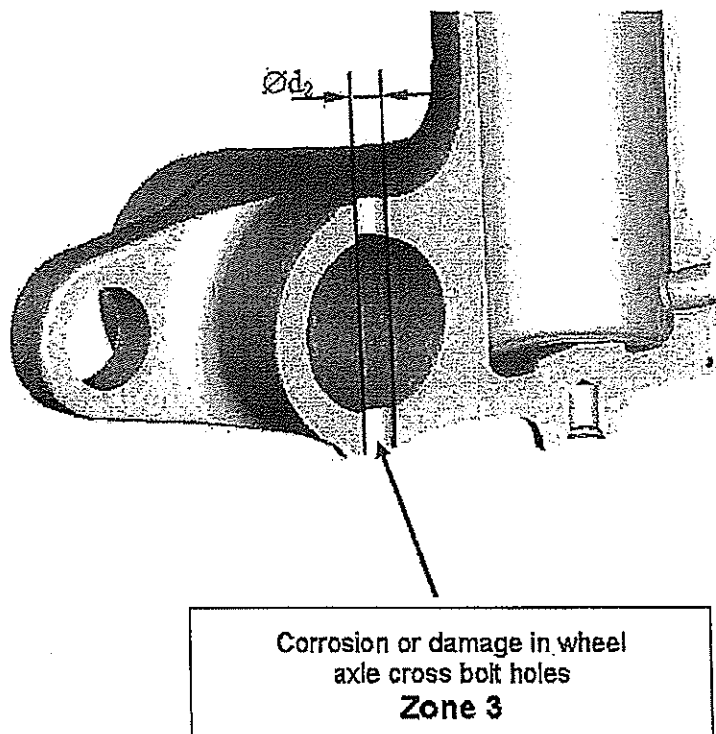
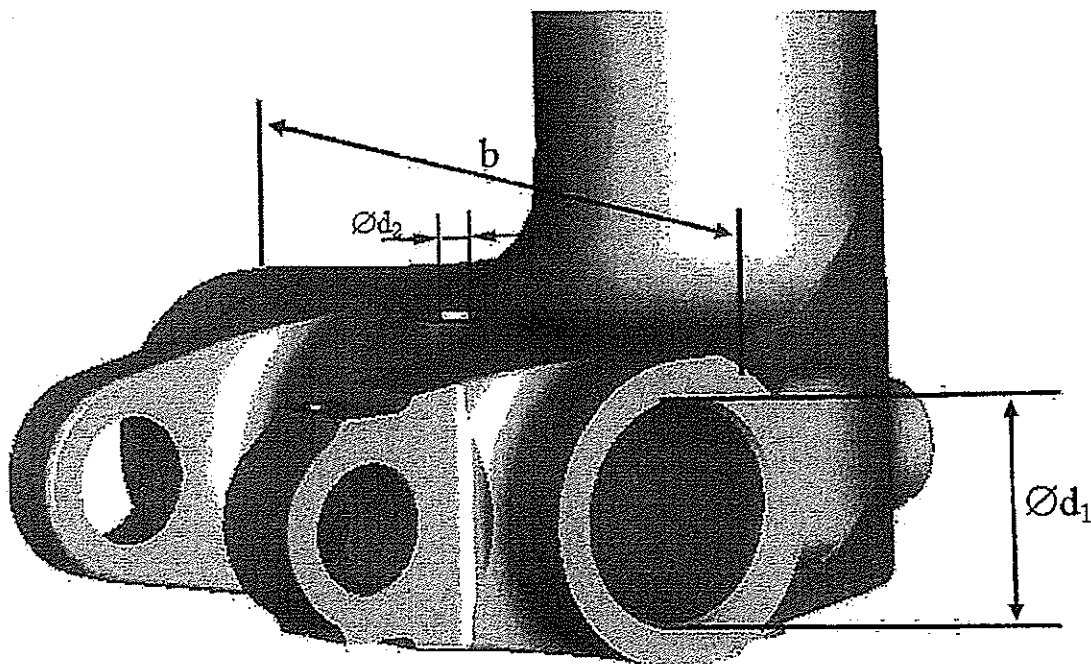

Fig. 2 Sectional View: Repair zone 3
Fig. 3 Dimensions to be checked
- 2) Measure Dimension $\varnothing d_1$, $\varnothing d_2$ and b , see para 1.1 Fig. 2 and para 2.2, Fig. 3
Measure and record Ød_1 in acc. to Fig. 3.
- 3) After machining check dimension $\frac{1}{2}b$ (see para 2.2, Fig. 3) and perform further steps, if it is within the stated limit in para 2.3, Tab. 2. If $\frac{1}{2}b$ is not within the stated limit, replace the part!